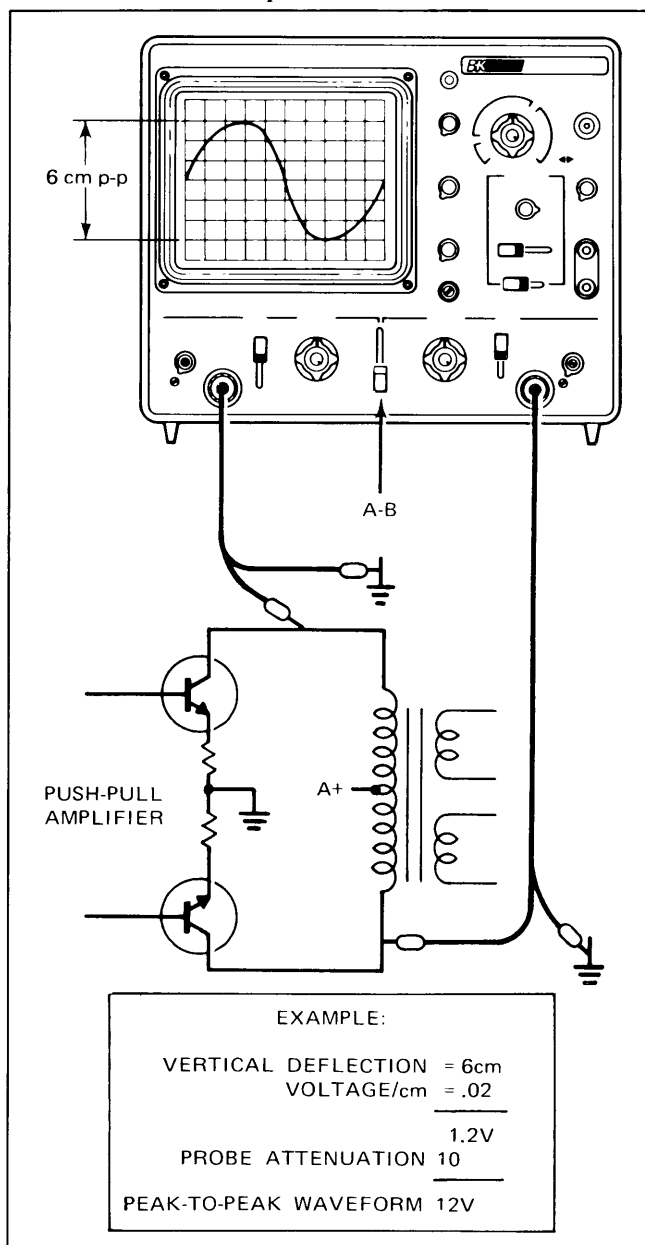

Fig. 5. Typical differential measurement.
DIFFERENTIAL VOLTAGE MEASUREMENT (See Fig. 5)
6. Calculate the time duration as follows: Multiply the horizontal deflection (in cm) by the SWEEP TIME/CM switch 5 setting (see example in Fig. 5). Remember, when the 5X magnification is used, the result must be divided by 5 to obtain the actual time duration.